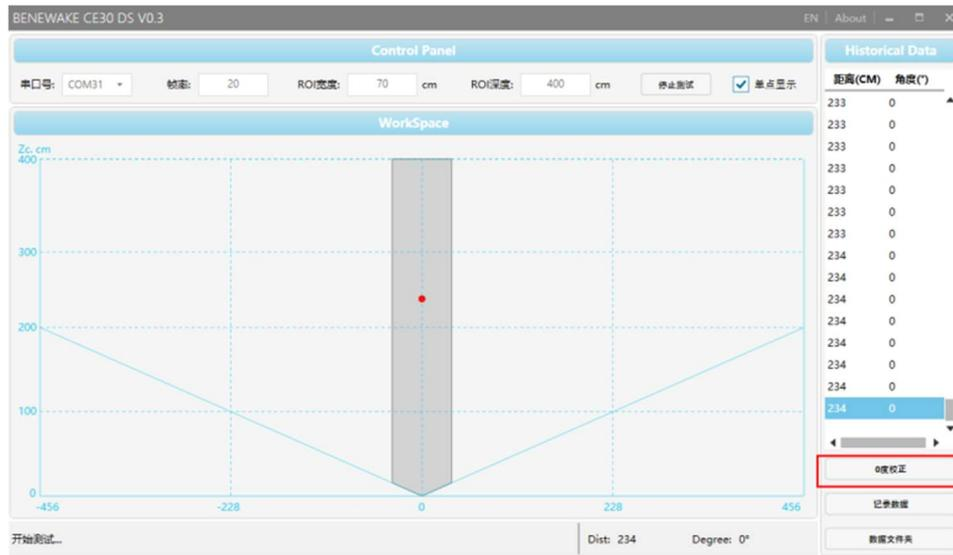

Fig. 8 Software “0 Angle Calibration” button
2. As shown in Fig. 8, click the “0 angle calibration” button on the software, and calibration instruction will be shown in Fig. 9.